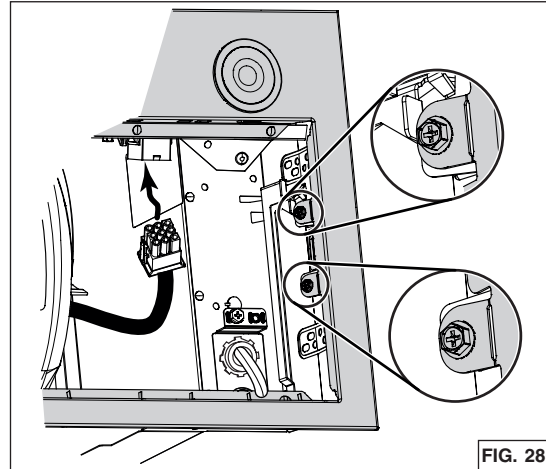

FIG. 28
- Reinstall and secure the faceplate on the unit by securing the faceplate to the unit using its 4 retaining screws (two per side, circled in FIG. 28). Plug the blower cable to its connector on faceplate (FIG. 28).